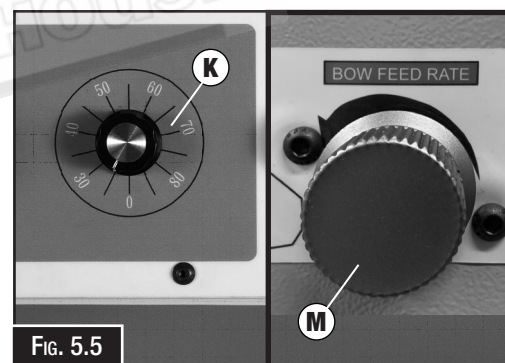

FIG. 5.5
12. Set blade speed using dial (K in Fig. 5.5) found on the controller referring to the blade speed selection guide on page 25.
13. Using the bow downfeed adjustment valve (M in Fig. 5.5) turn knob clockwise to the off position. This will ensure the feed rate is not set too fast for your initial cut.